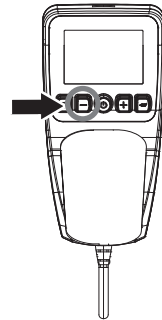

Fig.12
8.4.4 Press the power switch lightly, the battery and speed indicators will light up, and press the "-" key to adjust the speed to 1 level. Speed requirements for each gear(**Fig.12**):